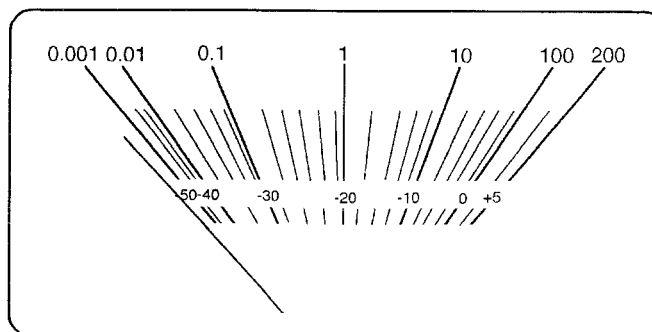

Fig. 3
- Turn the power **ON**, make sure that the power meter is mechanically adjusted to **0** point (shown in Fig. 3).